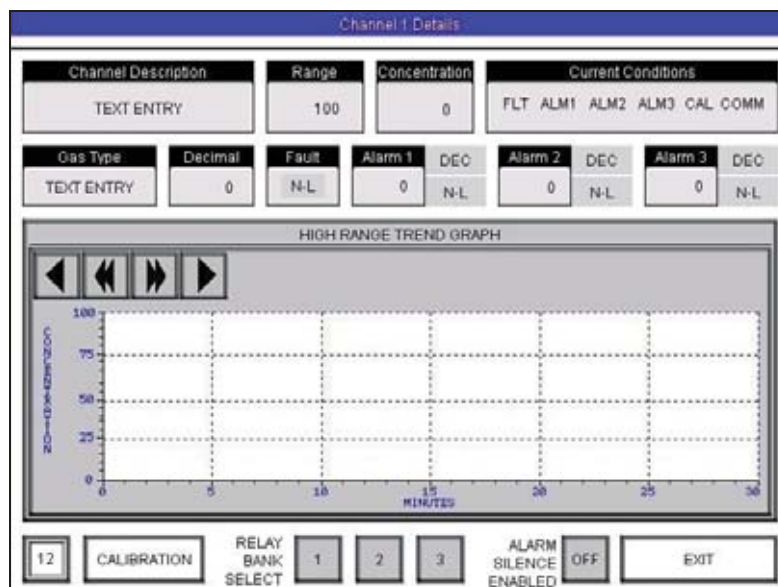

Figure 20 Channel Detail Screen
- 6) The “Channel Description”, “Gas Type”, and the range decimal point must be setup in the Remote Display to match the information used to setup the Main 880. Sensor Range and Alarm information should not be altered at the Remote Display. (This information is transferred over from the Main 880). Using the wand to select a channel from the “Main Screen” will open that channels corresponding “Channel X Details Screen” (Figure 20).